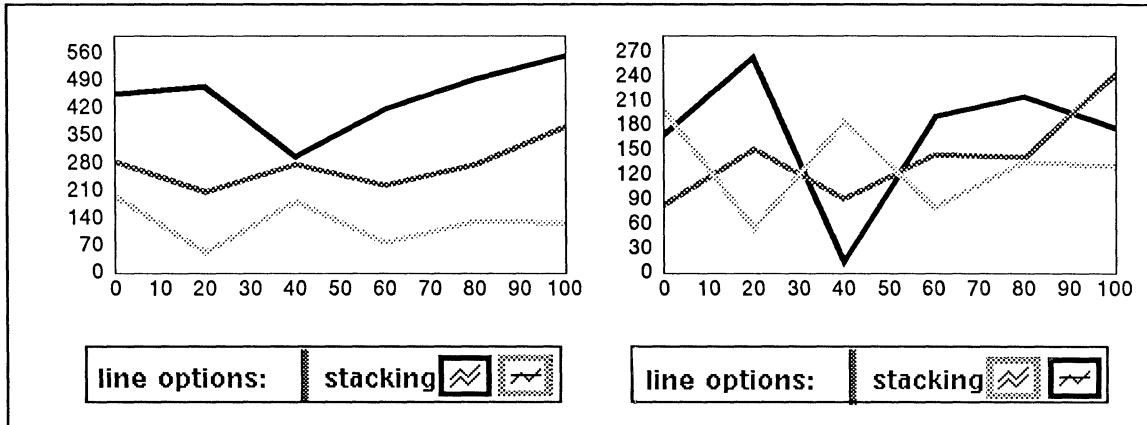

Figure 28-40. Stacked and unstacked lines
**Stacking.** The stacking options have meaning if there is more than one line in your chart. For example, if there are two lines and the left-hand box is turned *on*, each vertical value for *line 1* will be plotted. Then each vertical value for *line 2* will be added to the comparable value for *line 1*. *Line 2* will be stacked on top of *line 1* and will cross *line 1* only at points where the vertical value for *line 2* is negative. If the right-hand box is turned *on*, the vertical value of each line is plotted as is, and the lines will cross each other whenever this is appropriate to the data. Figure 28-40 shows how the same data look when the lines are stacked and when they are unstacked.